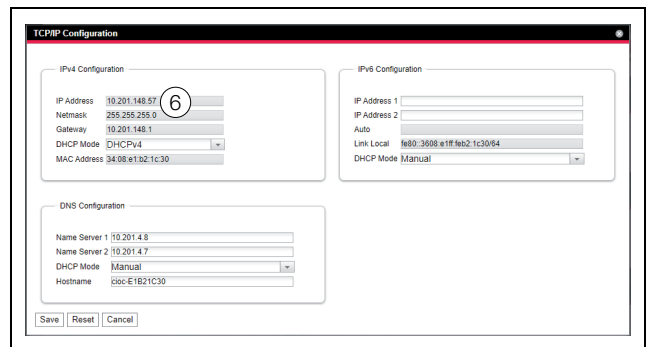

Fig. 95: Adjusting the TCP/IP settings
- In the TCP/IP Configuration window, change the device's IP address in the IPv4 Configuration group box to an address permitted in the network (fig. 95, item 6).